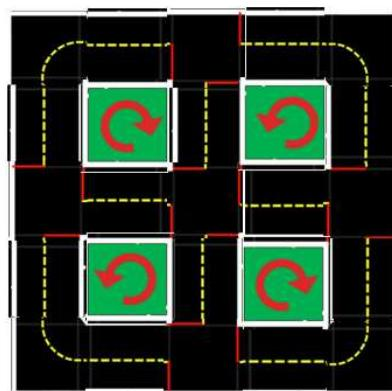

Figure 17.3. The Demo Map
Dream scenario intersection coordination: Duckiebots loop through the map as indicated in Figure 17.3. At the intersections the Duckiebots coordinate implicitly. Demo can run indefinitely without collision. Tunable: density of the traffic (fleet size) and the speed.
- The tiles to build the map in Figure 17.3